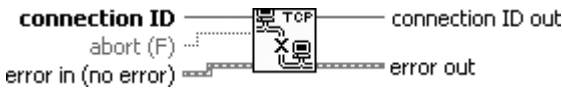

Figure 16.53
3. Close the TCP connection (see Figure 16.53).